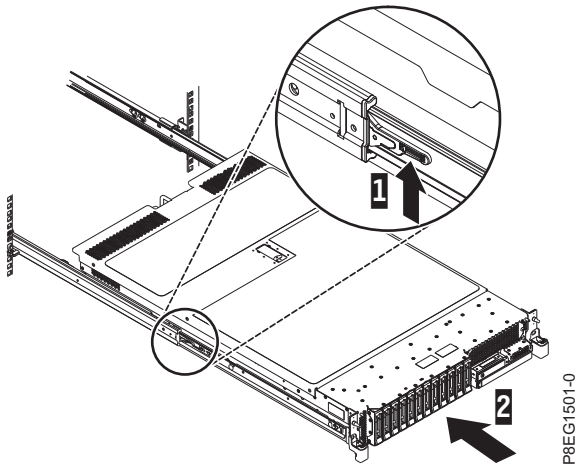

Figure 7. Lifting the release latches and pushing the server into the rack
3. Lift the blue release latches (1) on the slide rails and push the server (2) all the way into the rack until it clicks into place. For details, see Figure 7 on page 8.